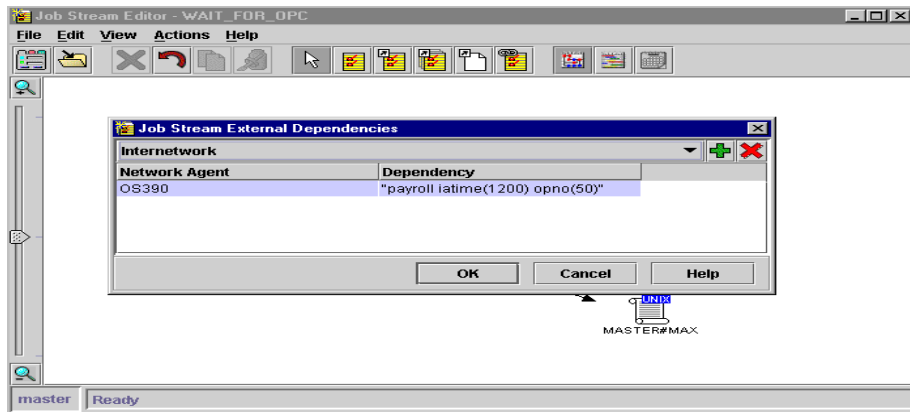

Figure 217. Complete the dependency
6. Define the dependency as shown in Figure 217.